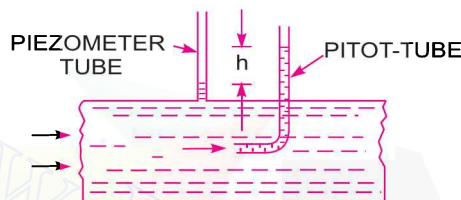

Fig. 6.14
1. Pitot-tube along with a vertical piezometer tube as shown in Fig. 6.14.